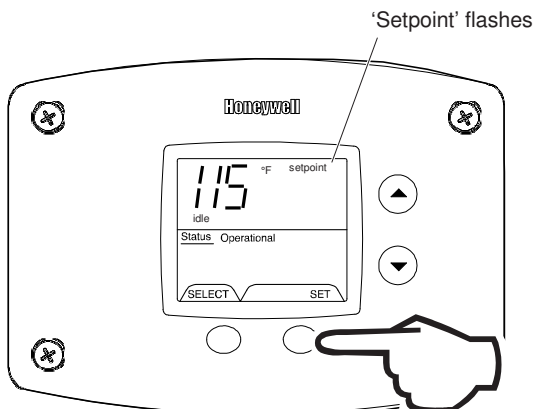

Fig. 49
2. Press the 'Set' button to enter the setting mode. 'Setpoint' will flash in the water heater display (Fig. 49).